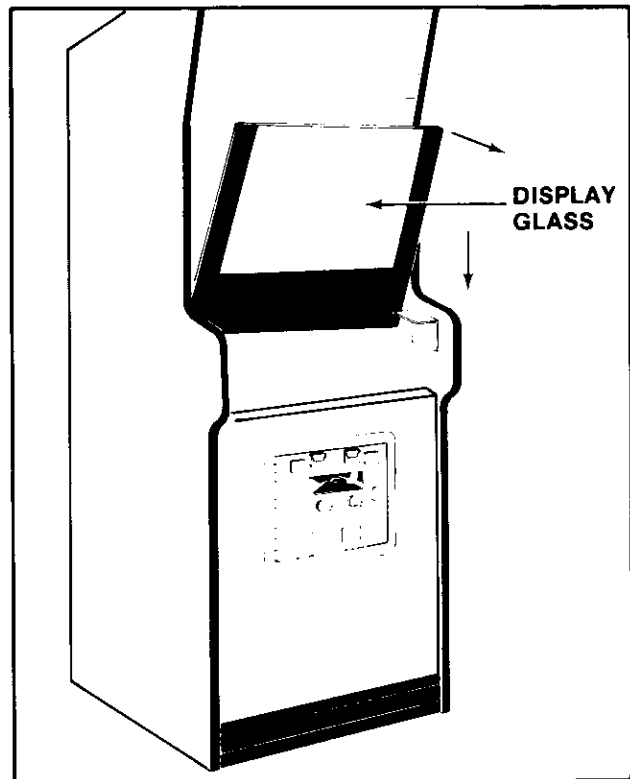

Figure 3-3 Removing the Main-Display-Glass & T.V. Bezel
- ☐ By putting your finger in the hole in the middle of the main-display-glass/diffuser support, you can lift them **BOTH** up slightly and pull them toward you about an inch. Now let them down just far enough so you can get hold of their top edges with your other hand and lift them **BOTH** out of the game. See Figure 3-3.